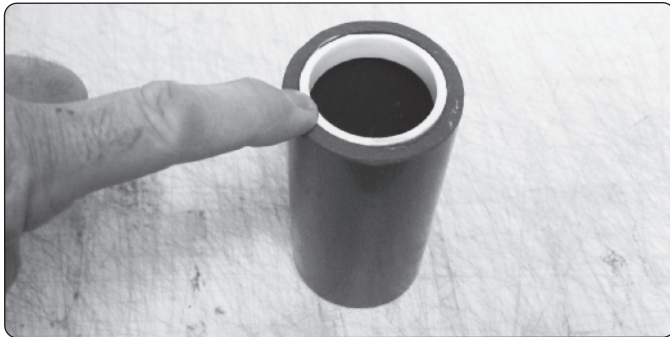

Figure 2: Pole Receiver
9. Locate the support pole receiver: **NOTE: white internal ring end gets glued into table flange. See Figure 2.**